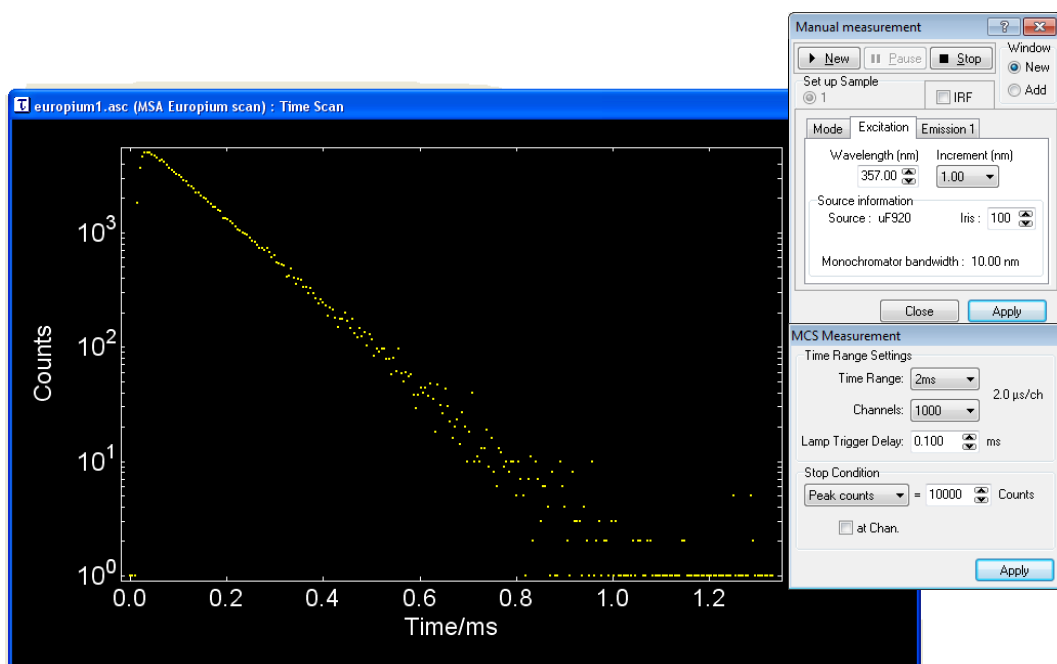

Figure 5-3: Dialogue box for a manual time resolved measurement by MCS
4. Close the signal rate screen and open the dialogue box for manual lifetime measurements (  >> **Manual**). The dialogue box will appear on the right side of the F900 main panel and is divided into two dialogue fields. The upper field will be required to start and stop measurements and provides an extract of Signal Rate options. The lower field is specific for the lifetime settings in multi-channel scaling mode (refer to Figure 5-3).